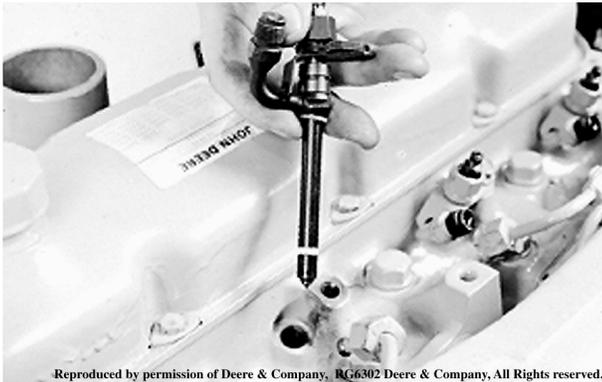

Figure 16: Shows relationship of parts required for installation.
- b. Position a new carbon stop seal (Figure 16-B) on pilot tool. Use a new seal washer (Figure 16-A) to help slide the carbon seal into place until it seats in its groove on nozzle body.